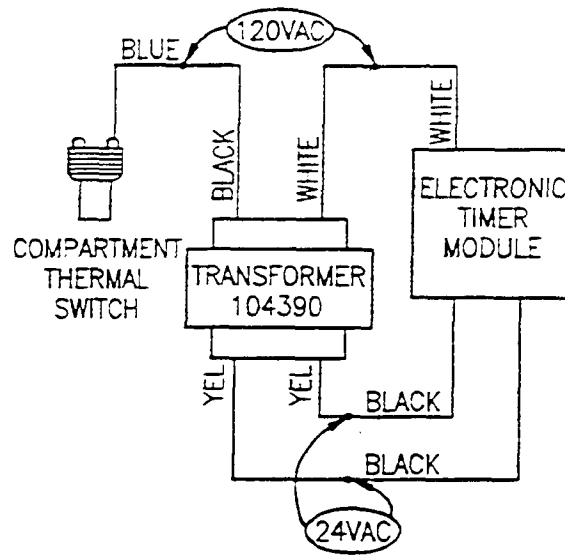

Figure 6-35. Electronic Timer Transformer
3. Refer to Figure 6-35, and check for 24 VAC across transformer secondary terminals.